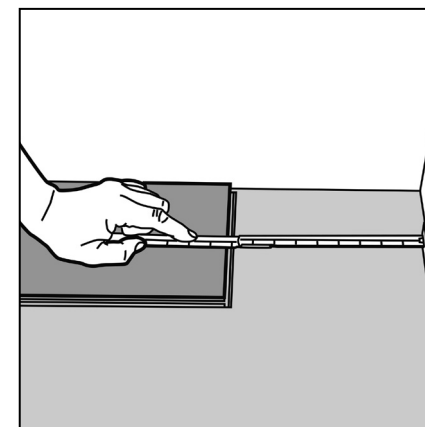
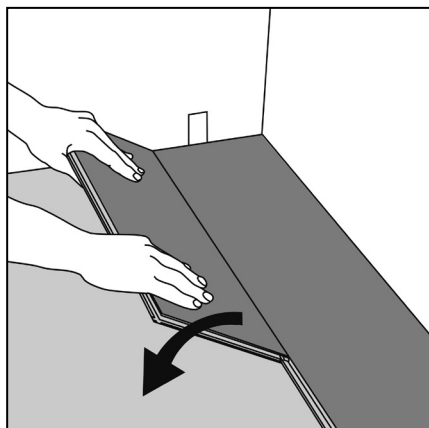

Figure 3 Last plank, first row
Figure 4 First Plank, second row
- > Measure the length of this plank/tile to fit (Fig 3), cut to correct length and turn back so the overhanging male profile on the short edge is now
- > Start this new row with the leftover piece from the last row (min length 350mm – Fig 3). Insert the plank/tile at an angle against the plank/tile in the previous row (Fig 4). Press forward and fold down at the same time.